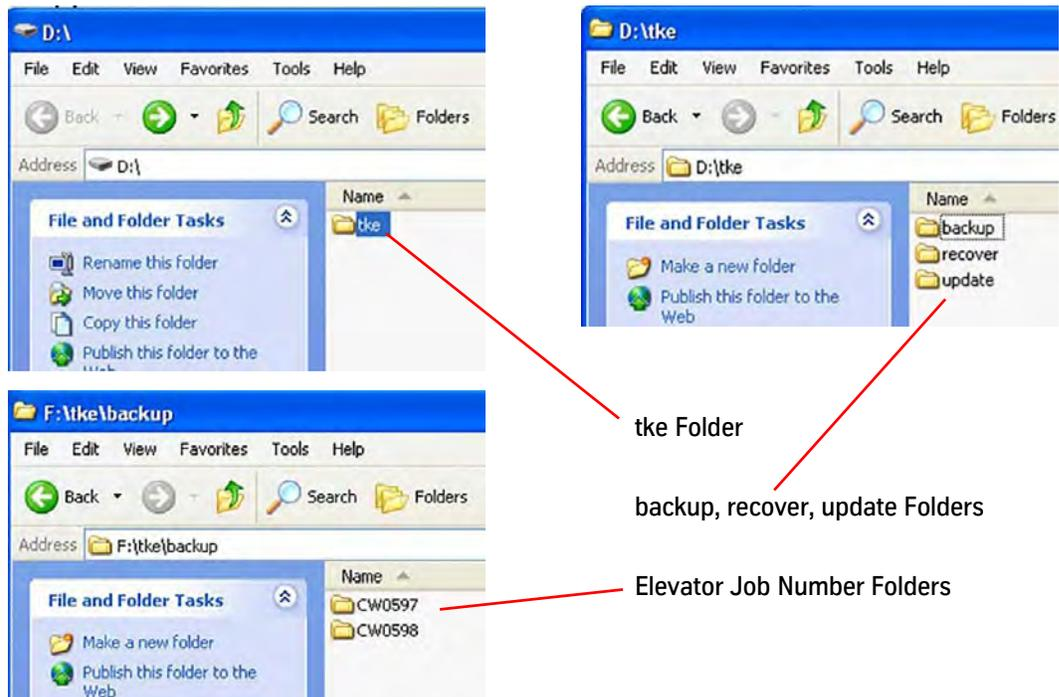

Figure 8 - Create Folders for USB Flash Drive
1. At the root of the USB flash drive, create a "tke" folder. When creating folders on the USB flash drive, all folder names must be in lowercase for the CPU to recognize the folder names. See Figure 8.